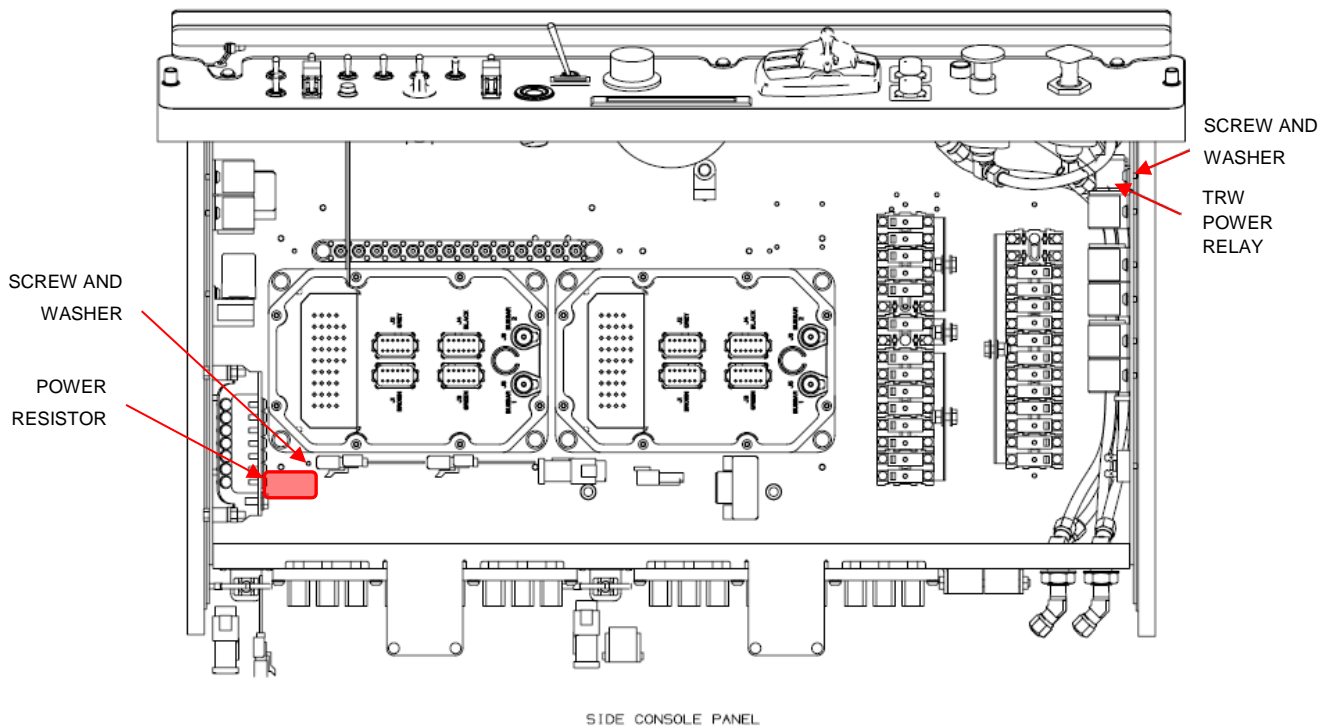

Figure 5: Side console panel with power relay and power resistor locations indicated.
- 19) Install this new relay assembly using the provided screw (PN: 14S00006) and washer (PN: 659000). This relay will be installed in the next position above the 24V relays on the right side of the panel, refer to Figure 5.
- 20) Locate the provided power resistor (PN: 627976). Using the provided screw and washers, (same parts as above) install below node 9. See Figure 5 below.